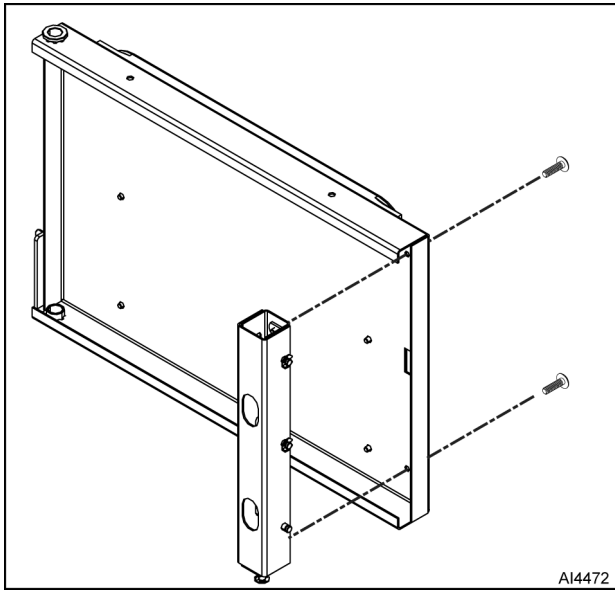

Fig. 16
2. Remove screws and latch mechanism (Fig. 16).